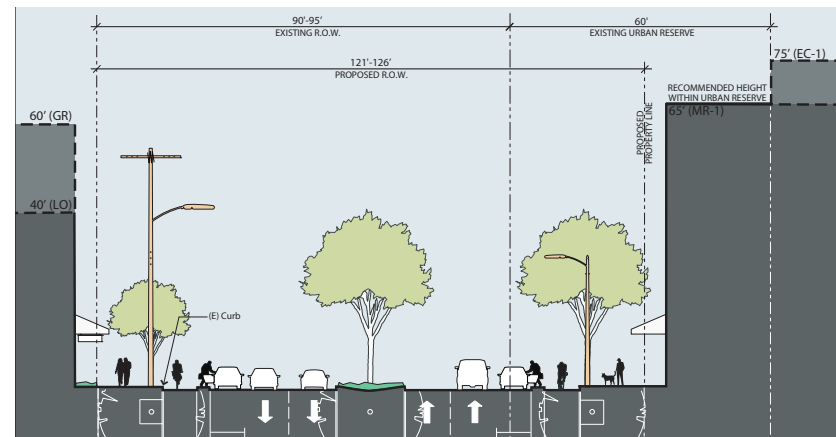

Figure 13:
- Between Lancaster Drive and Berkman Drive, Mueller's 60-foot urban reserve for future rail should be removed and the cross section of 51st Street should be retrofitted to include (Figure 13):